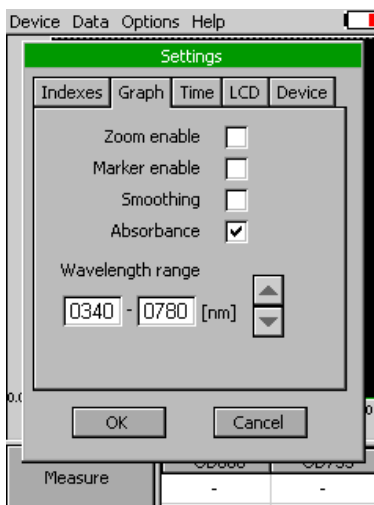

Fig. 8 Settings - Graph.
- **Graph** – displays options for setting the wavelength range and graph features (Fig. 8).